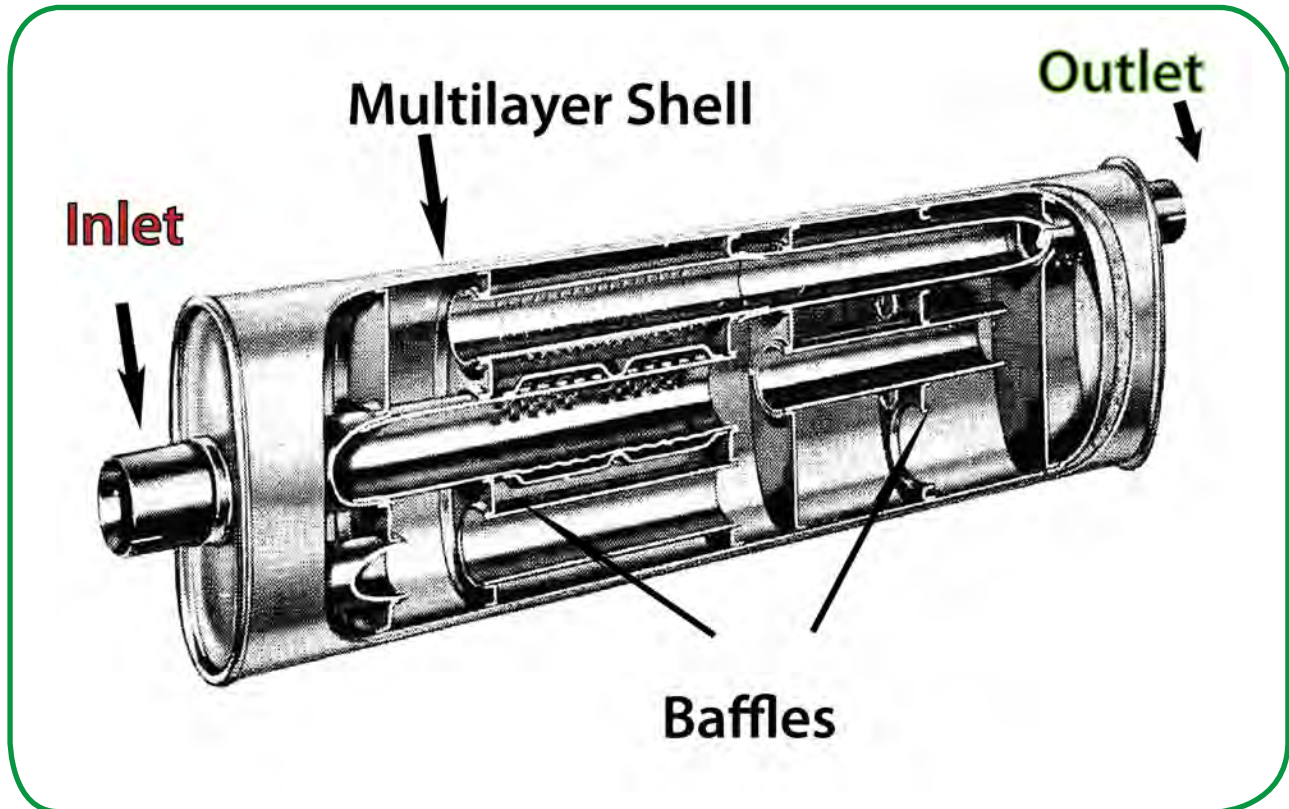

Figure 5-3. A muffler using baffles.
1. Mufflers with several baffled chambers to suppress sound. Refer to figure 5-3.